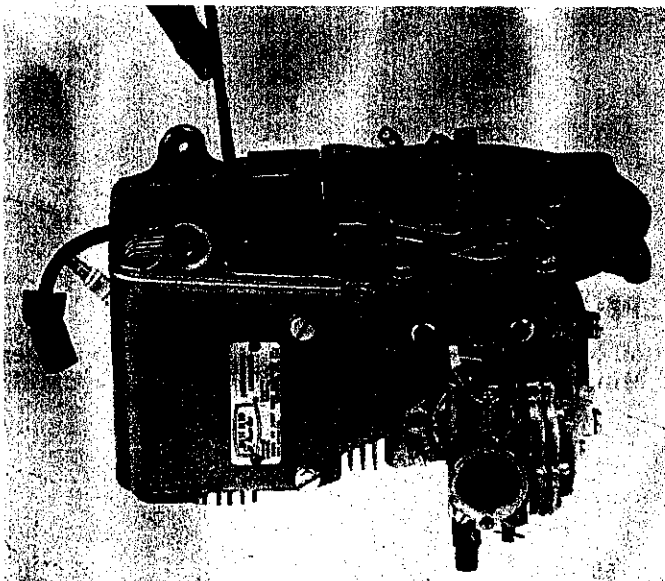

FIGURE 6. REMOVING COIL
9. Remove the coil primary leads from the condenser and breaker point terminal post and core shoe before attempting to remove coil. See Fig. 6.